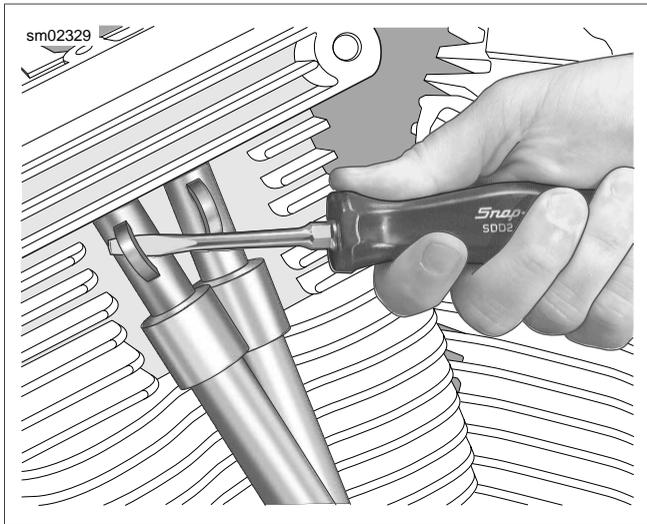

Figure 3-14. Removing Spring Cap Retainer
1. See Figure 3-14. Insert the blade of a small screwdriver into cast loop of spring cap retainer (at top of upper push rod cover). While pushing down on spring cap, rotate bottom of screwdriver toward outboard side to remove. Repeat step on second push rod cover.